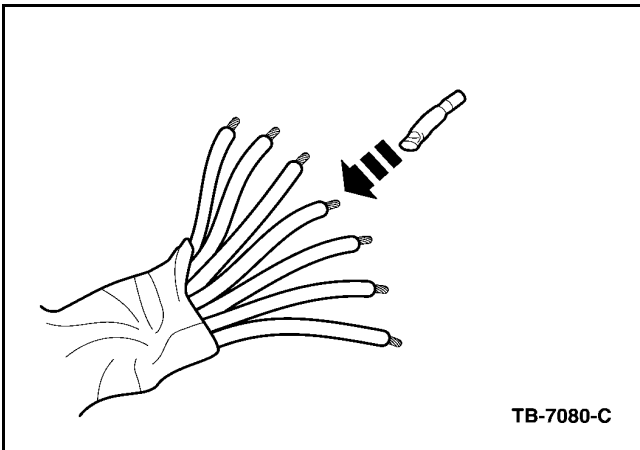

Figure 3 - Article 06-17-8
2. Using dual wall heat shrink tubing, position tubing over each individual wire (Figure 3).